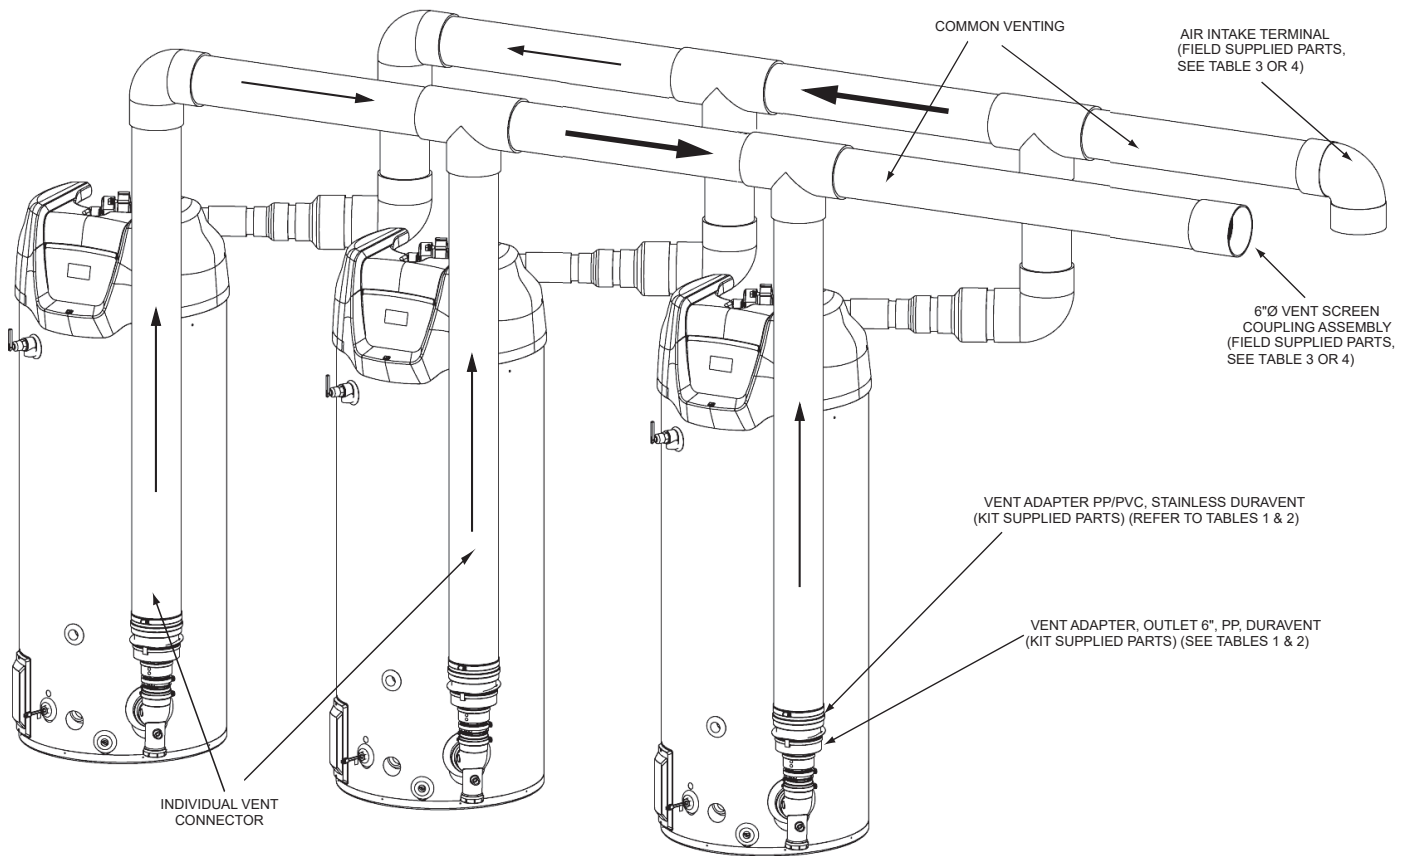
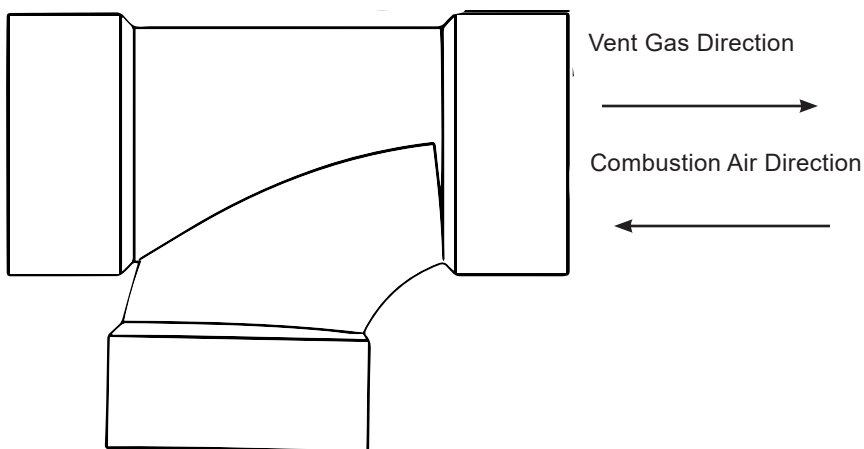

Figure 4. Definition of System Sections - PVC
Figure 5. Sanitary TEE
- No change to the system layout, as shown in *Figure 4* (page 7), except as explained in these instructions.
The common vent is the section of the vent and air inlet piping where the gases from all of the heaters flow together, See *Figure 4*. The maximum equivalent length straight pipe and elbows of the common sections is 50 feet. The minimum equivalent length of the common sections is 3 feet. Each 90° elbow is equal to 5 feet and a 45° elbow is equal to 2½ feet. The maximum number of elbows is three. The air intake terminal (90° elbow) is not included in the equivalent length.
Figure 4 shows the system constructed with straight tees. However, you can also use sanitary tees, shown in Figure 5, as an acceptable substitute, provided they are arranged so that the flows are in the directions indicated in Figure 5.
The individual vent connectors attach the heaters to the common vent. The exhaust vent connectors are attached to the water heater with the parts in the kit. The air inlet connectors are attached with PVC reducing fittings to the heater's PVC coupling. As shown in Figure 4, the individual vent connectors consist of vertical and horizontal sections that connect the heater outlets to the common vent. Using different lengths of pipes, the height of the horizontal sections may be adjusted to be from 80" to 110" from the bottom of the heater to the center-line of the horizontal section. The combustion air and exhaust vent sides of the system may be different heights, but each must meet the 80" to 110" height requirement.
The common sections are the pipes that carry the vent gas or intake air to and from the outside. Each pipe must extend from the tee over the heaters to the outside/ outdoors etc. It is preferred to run the air and vent sections next to each other, over a similar path as shown in *Figure 4* (page 7). However, differences may be needed in the field. The requirements for both the air intake and vent common sections are: